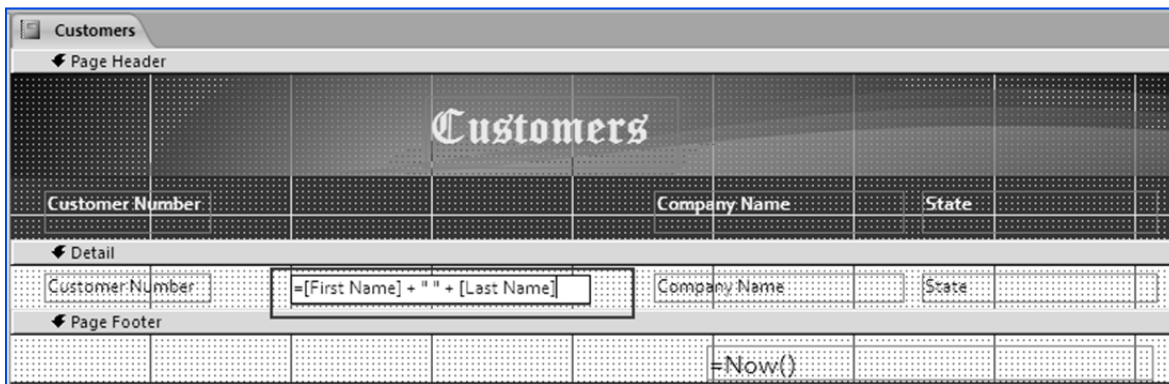

Fig. 2.4.10. Write the expression in calculated control
4. Delete the *Textbox Label* and type the text `= [First Name] + " " + [Last Name]` in the textbox. The report window appears, as shown in Fig. 2.4.10.